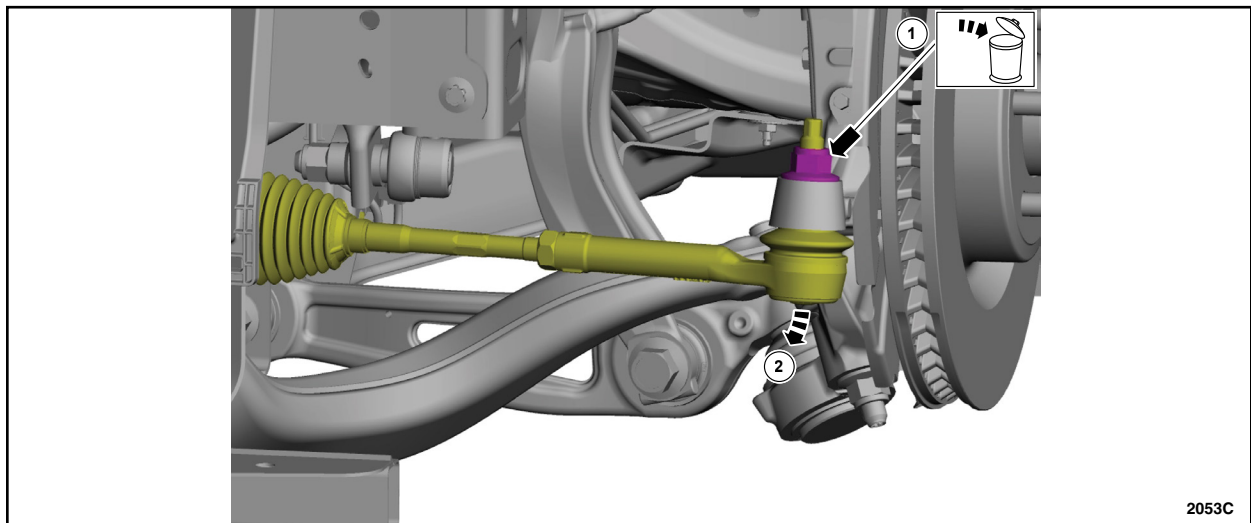

FIGURE 3
8. Separate the outer tie-rod end from the wheel knuckle. See Figure 3.